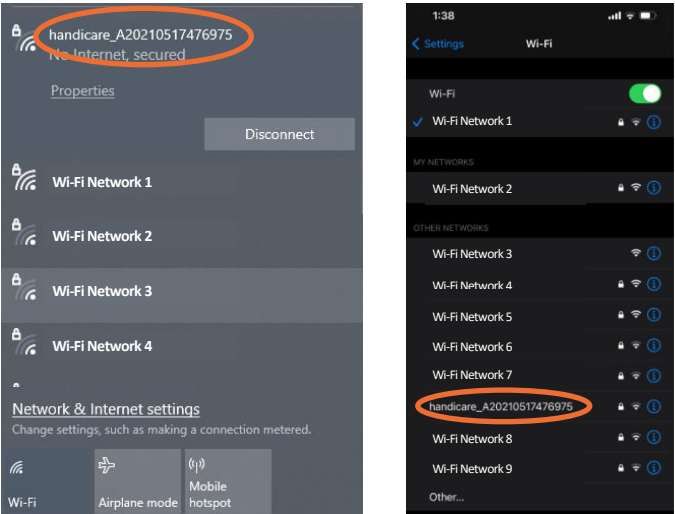

Figure 15: WIFI Networks Window
- Select the connection for the lift **handicare_A20210517476975**, where **XXXXXXXXXXXXXXXX** is the **fifteen digit serial number** of the lift as per the product label. (Figure 15).